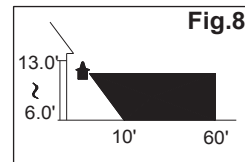

Fig.8
3. For best performance, install fixture at least 6 feet above the ground. At such a height, the fixture will provide a detection distance of up to 60 feet at 77 degrees Fahrenheit. (See FIG.8)